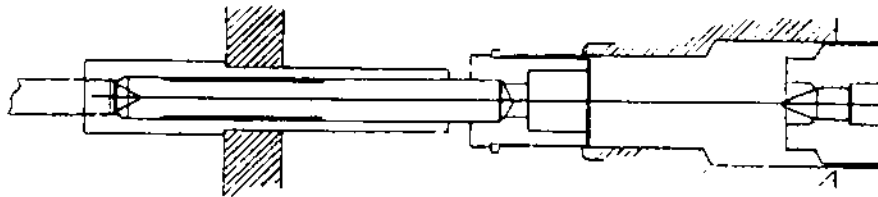

FIGURE 7 - Installing Small Motor End Bearing Insert
7. The small diameter motor end bearing insert can be installed from the suction end using the small bearing driver and spacer ring, push rod and utility bar as shown in Figure 7. The lap joint must be positioned at the 12 o'clock position when installed in the compressor housing.